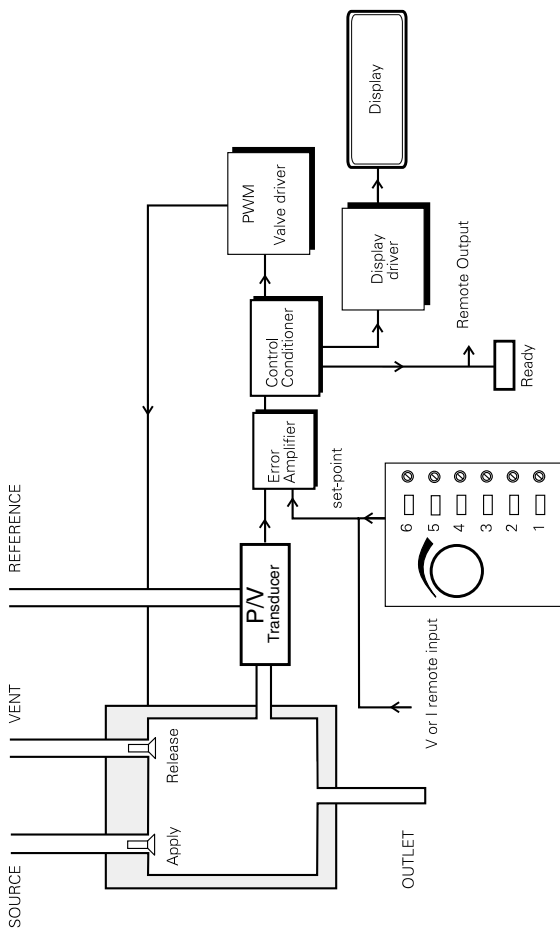

Figure 3-1 Schematic Diagram
3.1.3 Functional Description (Figure 3-1)